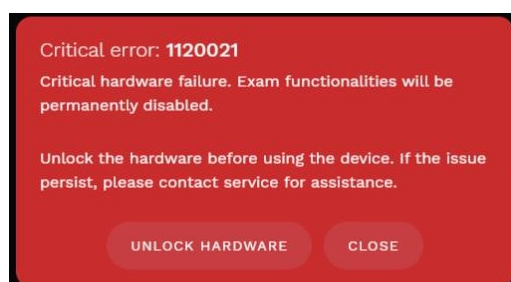

Fig. 4 – Example of error message due to device hardware lock
- In case an unexpected hardware condition occurs during use, an error message may appear (see for example Fig. 4) and the device may become temporarily locked. It is possible to reset this condition by letting the device re-initialize: refer to §17.2.1 for the complete procedure. If the error persists, please contact an Authorized Service Center.